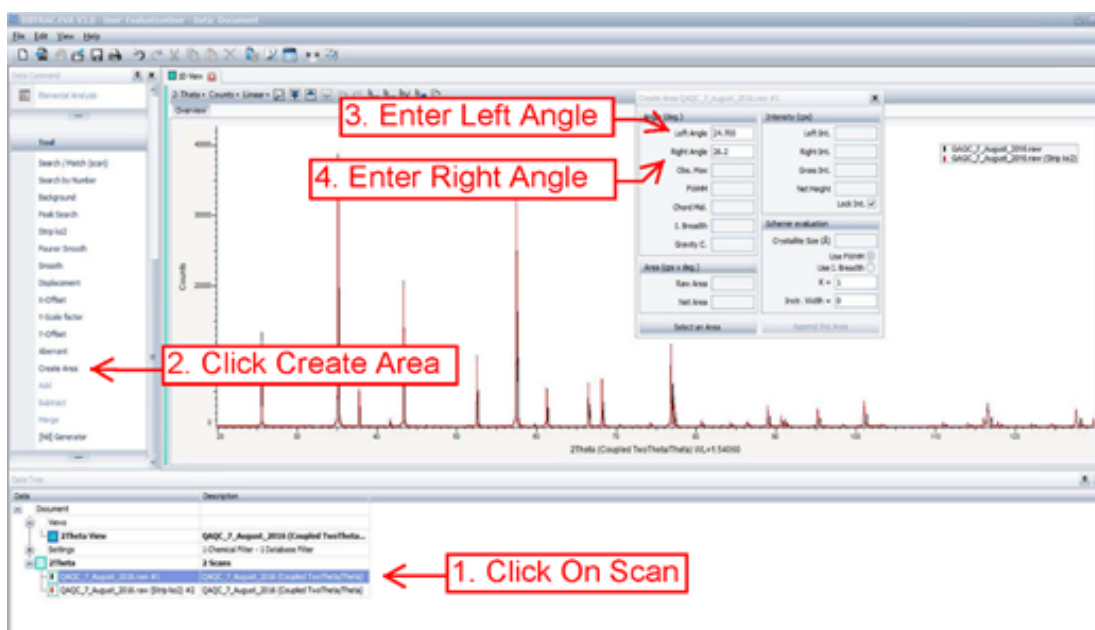

Figure 22. Create Area for Scan Angles. (1) Arrow points to scan name (2) Create Area tool (3) Left Angle entry field (4) Right Angle entry field
5. Select the area around each peak as shown in Figure 22. Click on either scan so that it is highlighted (Figure 22-1). Then click "Create Area" (Figure 22-2). A New window will pop up where you can enter the left angle and right angle (Figure 22-3, 22-4).